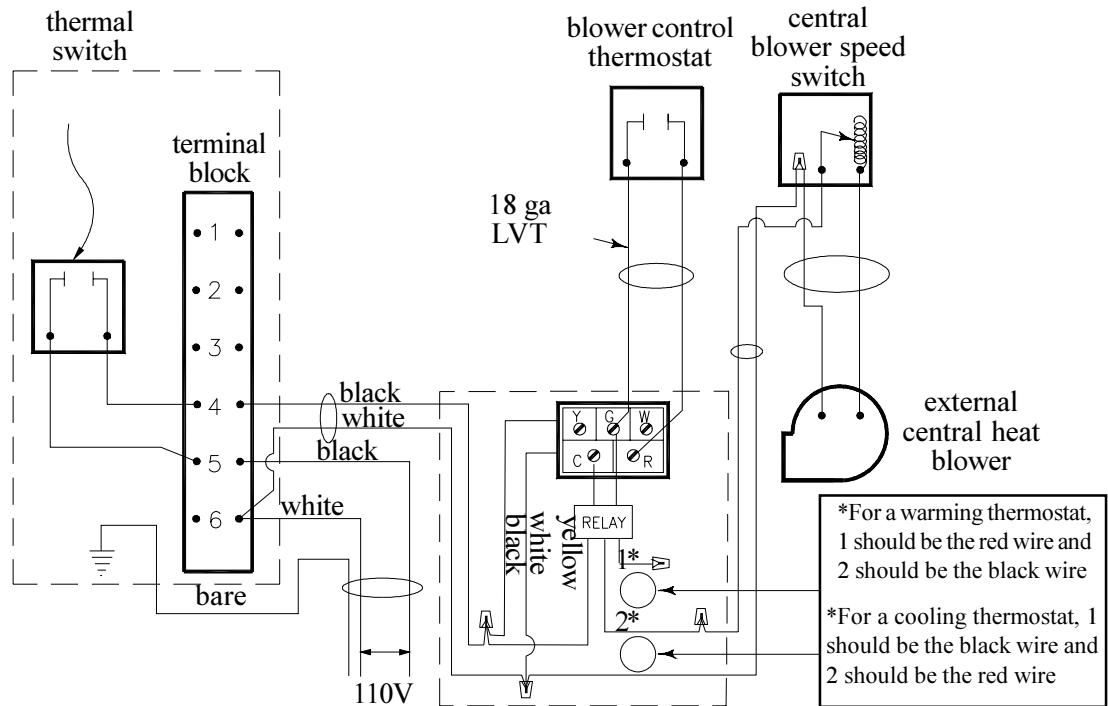

Figure 36: Wiring for the central heat system
a) If you would like the blower to turn on when the thermostat calls for heat, first locate the thermostat in the principal room heated by the duct system. Do not install it in the room where the fireplace is installed. There are yellow black and red wires coming out of the relay as shown in the wiring diagram. Connect the wire from #4 of the terminal block to the black wire and put the wire connector on the red wire for protection. See Figures 36 and 37 for schematic wiring diagrams.
b) If the fireplace is in a small room and/or you would like the central heat blower to remove air from this room when it becomes too hot, locate the thermostat in the room with the fireplace. Connect the wire from #4 of the terminal block to the red wire and put the wire connector on the black wire for protection. See Figures 36 and 37 for schematic wiring diagrams.
The system is wired similarly to the central heat system (figures 36 and 37) with the addition of the blower control and the blower center (See figure 38). The whole system runs on 24V AC. Make sure that the thermostats are matched with the correct zone valve.